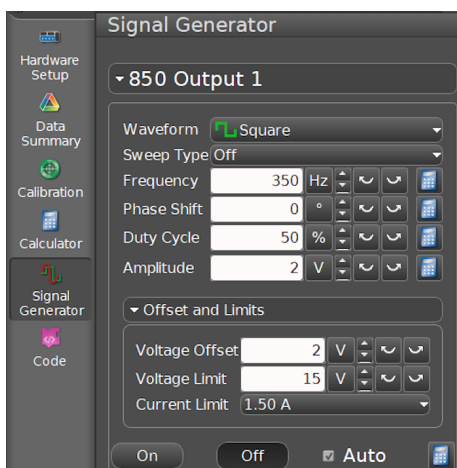

Figure 3: Signal Generator Setup
4. Click on Signal Generator. Set the **Waveform** to Square. Shown in Figure 3.
1. Click on Signal Generator. Set the **Waveform** to Square. Shown in Figure 3.